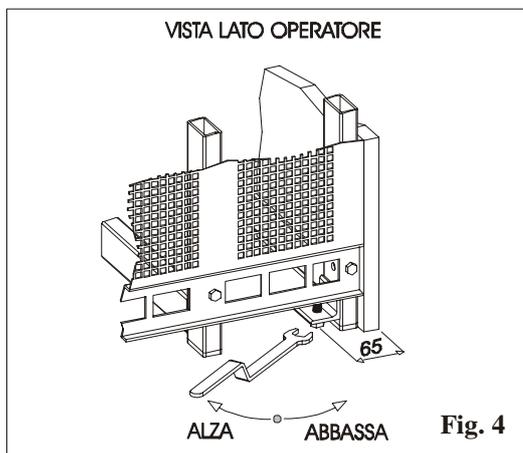

Fig. 4
- Once the cabinet is placed in the desired area, it must be put horizontally through the adjustable feet. (fig.4)